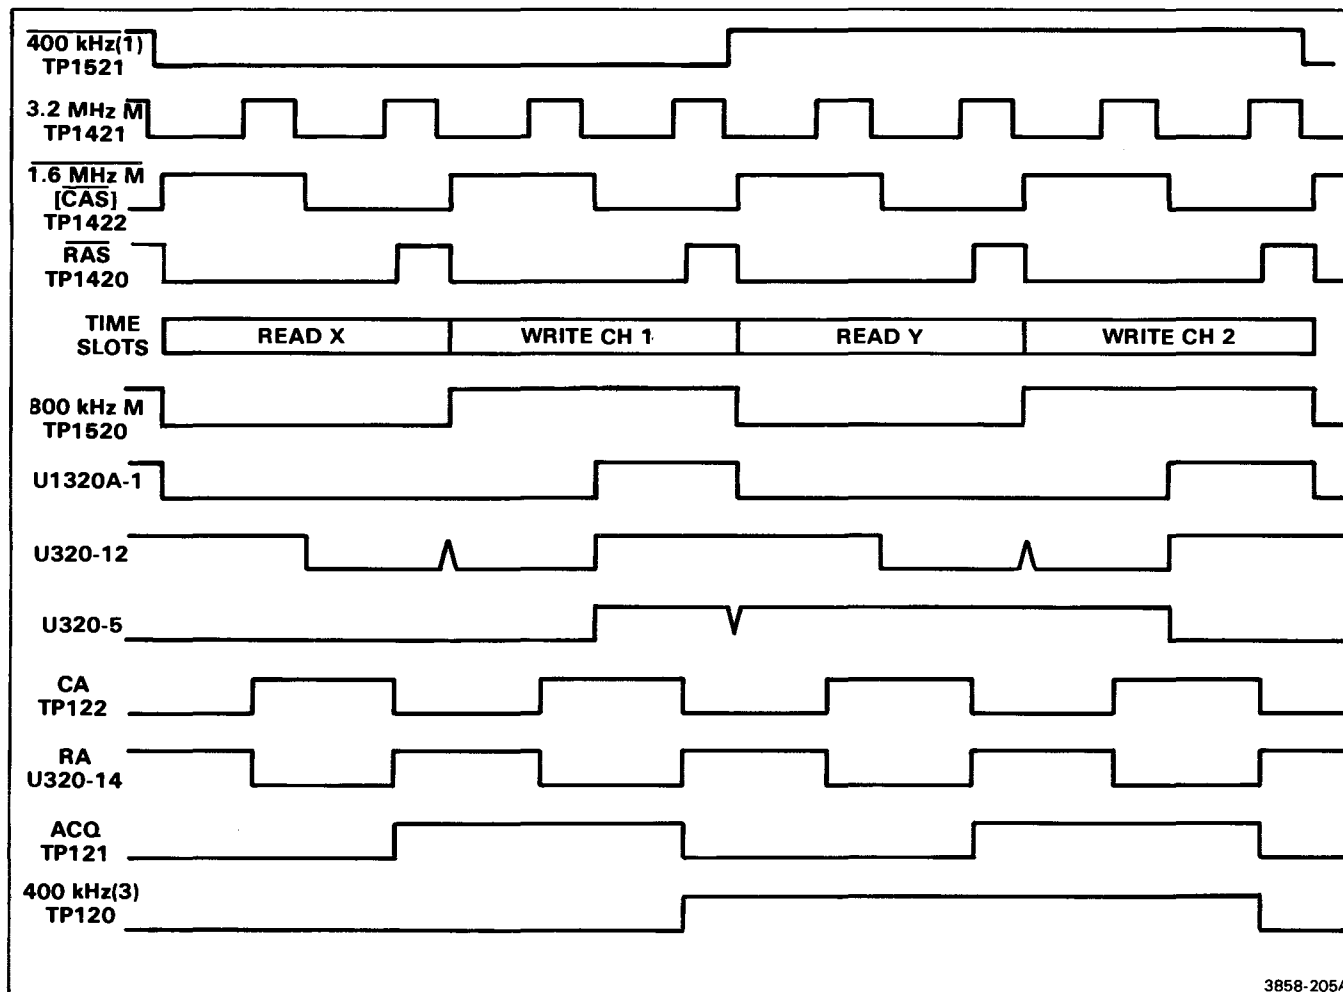

Figure 2-15. Memory timing signals.
The WFM completes one read/write cycle every 2.5 μ s for a rate of 400 kHz. Each read/write cycle is divided into four time slots (see Fig. 2-15): READ X, WRITE CH 1, READ Y and WRITE CH 2. During the READ X time slot, a byte of data is read from the WFM to be displayed on the X-axis of the mainframe crt; during the READ Y time slot, a Y-axis data point is read. Note that although X-axis data are always read, it is used only when displaying waveforms in the X-Y mode.
The $\overline{3.2\text{MHz}}$, $\overline{1.6\text{MHz}}$, $\overline{800\text{kHz}}$ and $\overline{400\text{kHz}(1)}$ signals from the Time Base board supply the basic timing information for the Memory circuitry (see Fig. 2-15). The $\overline{3.2\text{MHz}}$ and $\overline{1.6\text{MHz}}$ signals are applied to inverter U1520E, inverter U1420D and gate U1320D to create the $\overline{3.2\text{MHzM}}$, $\overline{1.6\text{MHzM}}$ and row address select ($\overline{\text{RAS}}$) signals.
Quad D-Type flip-flop U320 gates these signals through flip-flop sections 2, 3 and 4 to create additional special purpose timing signals: CA, RA, ACQ and 400kHz(3). Figure 2-15 shows the input and output timing relationship of these signals.
A positive-going edge on the pin 14 clock input to each counter device clocks the device one count. Two clock modes are provided: continuous and single step. In the continuous mode, the 400kHz(3) clock signal clocks the counters once every 2.5 μs , just before the beginning of the READ X time slot (see Fig. 2-15). In the single step mode, the display address generator singlestep enable ($\overline{\text{DAGSSE}}$) line is pulled low, which blocks the 400kHz(3) clock from being applied to the counter devices. The display address generator single step ($\overline{\text{DAGSS}}$) line then controls the clock inputs to the counter devices, allowing the microprocessor to single-step the counters.
The $\overline{WMS}$ and CA lines enable U800 to output address data to the memory data bus (MA3-MA6). When both $\overline{WMS}$ and CA are high, the read mode of U800 is selected. The 400kHz(3) and ACQ lines then select which register is read. Each register is assigned a specific time slot (see Table 2-9). Then 400kHz(3) and ACQ select these registers in the sequence that the WFM is read from and written to: READ X, WRITE CH 1, READ Y and WRITE CH 2 (see Fig. 2-15).